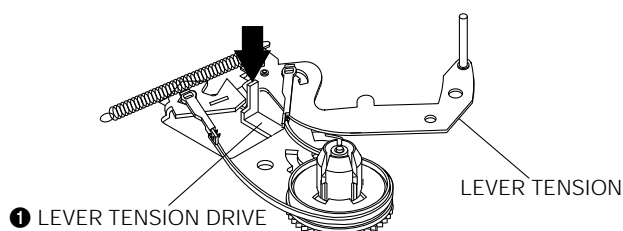

Fig. 2-11
- 2) Push the lever tension drive ❶ in the direction of arrow. (See Fig. 2-11)